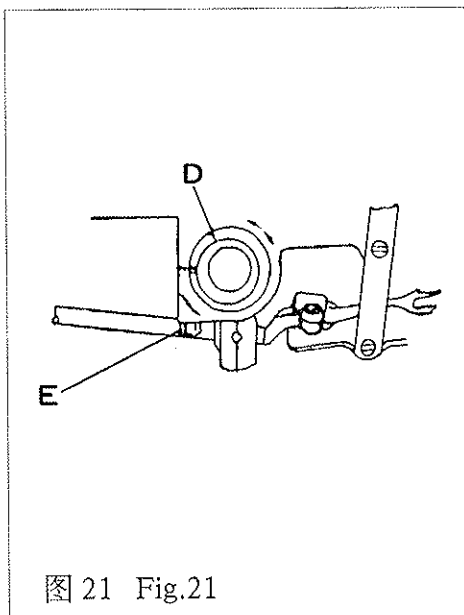

图 21 Fig.21
①旋松紧固螺栓“E”,左右移动偏心支承套“D”,达到上述要求时,旋紧紧固螺栓“E”(图 21)。
①Loosen set bolt "E", move the eccentric supporting sleeve "D" rightward and leftward, and tighten the set bolt "E" (Fig.21)
① 旋松紧固螺栓“E”(图 21), 周向转动偏心支承套“D”, 使钩线叉在右端时达到上述要求。
① Loosen set screw "E" (Fig.21) and turn the eccentric supporting sleeve "D" so that when the thread hook is at the right end may comply with the above-said requirements.